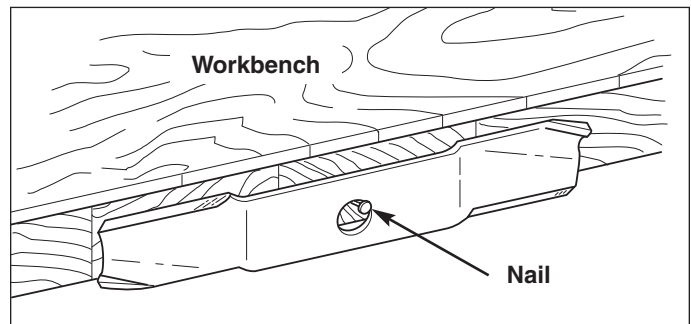

Figure 14. Balancing The Blade
5. Balance the blade as shown in Figure 14. Center the blade's hole on a nail lubricated with a drop of oil. A balanced blade will remain level.